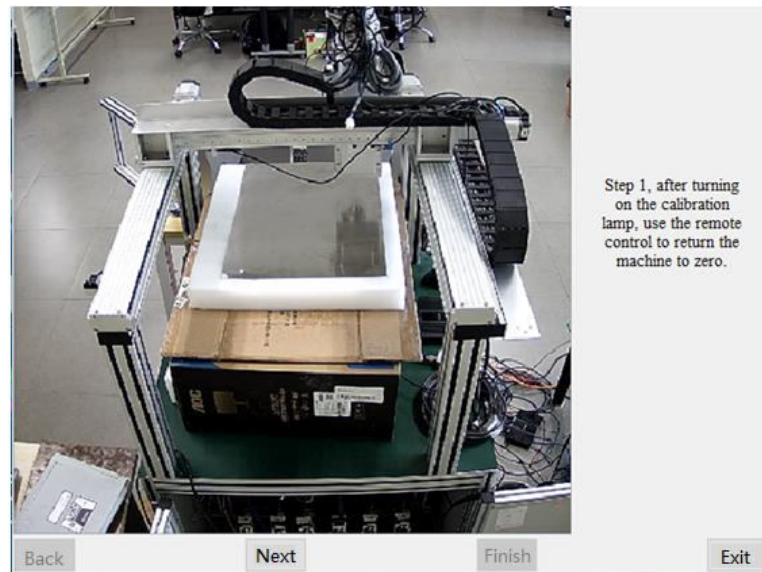

Figure 13.2 Calibration interface
- Click the camera calibration button, open the calibration interface, and use the remote control to make the machine tool back to zero, as shown in Figure 13.2: